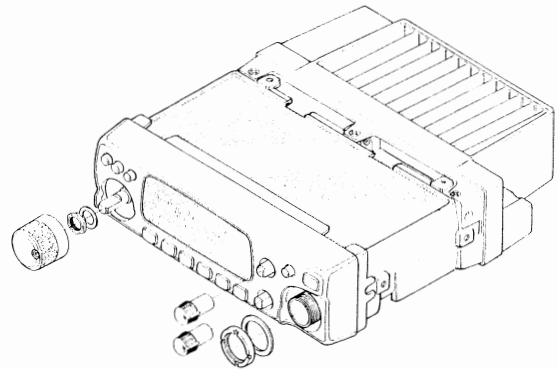

Figure 5.
- ❑ Remove the two screws as shown in Figure 5, then unscrew the ring nut affixing the mic jack (you may be able to do this carefully using a pair of long-nose pliers, or have your dealer do this with a special wrench).